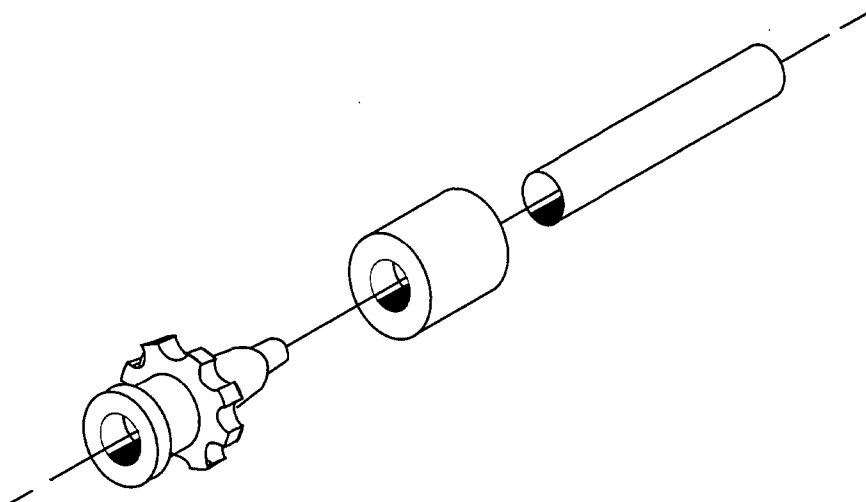

Fig. 5.4. Attachment of tubing fittings.
2. Slip a color-coded lock-ring specific for that size of tubing onto one end of the tubing (see below). Install the female luer fittings by inserting the barbed end of the fitting into the tubing, and clamp the luer fitting into place by sliding the lock-ring over the barbed fitting (see Figure 5.4). Repeat on the other end of the tubing.
5. Connect the inlet line from the pump, sample loop, and outlet line to the column as shown in Figure 5.4. Arrow indicates rotation direction of valve.